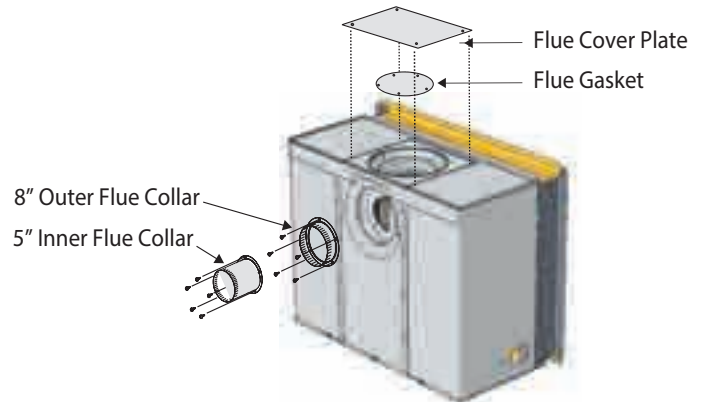

Figure 10a. Flue cover and collar installation, Rear Vented fireplace.
3. Install the (removed) Rear flue cover and gasket material, to the Top vent outlet. Fasten the cover with included hardware, as illustrated Figure 10a.
4. Install the (5" and 8") collars to the rear vent outlet using the included hardware, as illustrated Figure 10a.